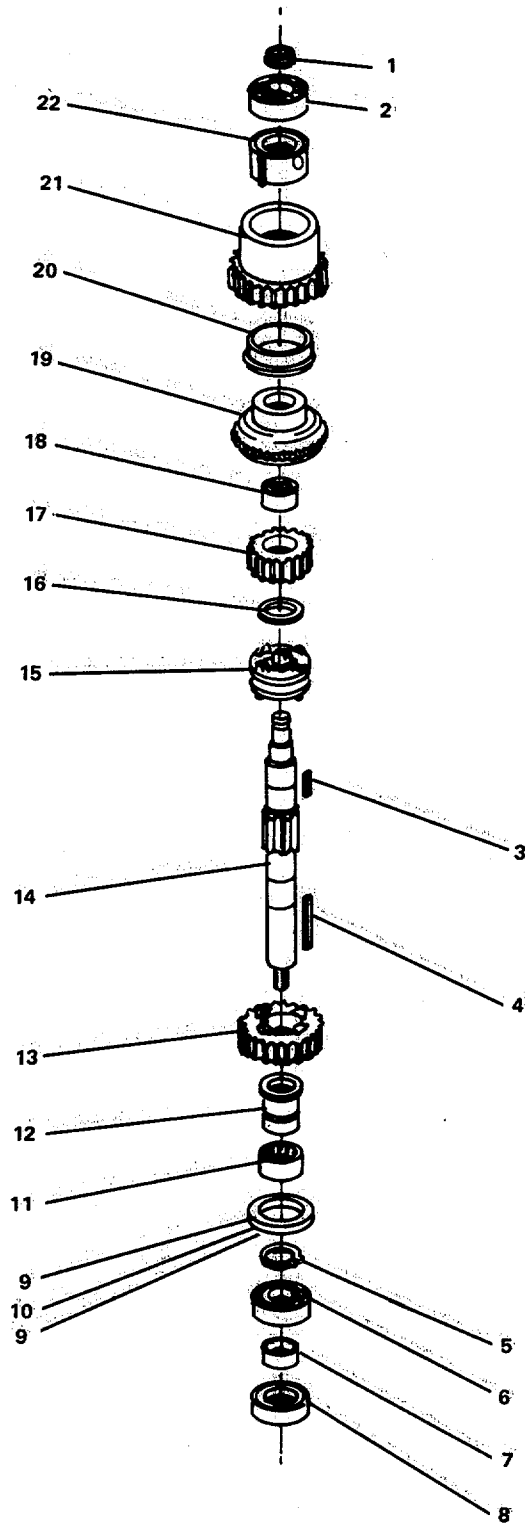

FIGURE 3-67. Repair Sun Shaft Group.
**3-65. Repair Sun Shaft Group. (Figure 3-67)**